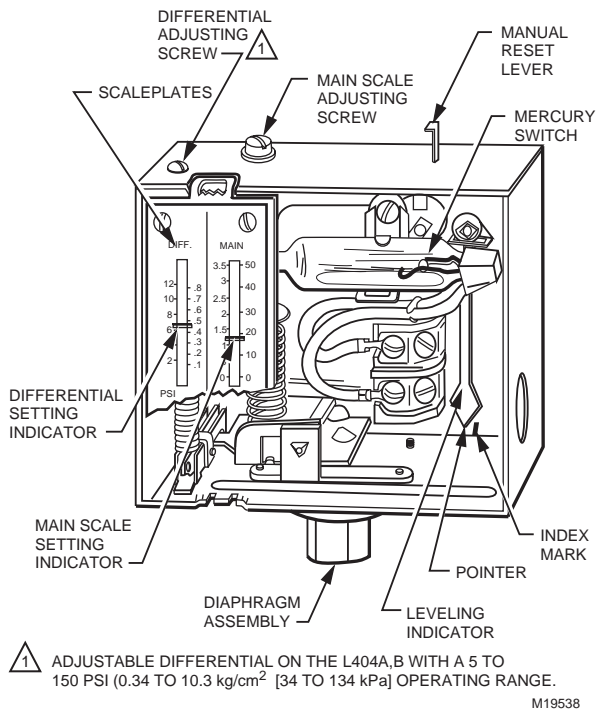

Fig. 7. Setting a Pressuretrol® Controller.
A controller with a mercury switch must be accurately leveled for proper operation. It is level when the leveling indicator (see Fig. 7) hangs freely with its pointer directly over the index mark inside the back of the case. Level the controller by carefully bending the steam trap (siphon loop).
The L404B is recommended for this application. It makes a circuit when the pressure rises to the setpoint and breaks when the pressure falls to the setpoint minus the differential (Fig. 7).
Adjust the main scale set point for the desired operating pressure by turning the main scale adjusting screw (Fig. 7) on the top of the case until the main scale setting indicator is at the desired value. On an L404A (except the L404A1651, which has a fixed differential) or L404B, adjust the differential setting by turning the differential adjusting screw (Fig. 7) until the differential setting indicator is at the desired value. The scaleplates are marked psi and kg/cm2.
2. Turn the main scale adjusting screw (Fig. 7) until the main scale setting indicator on the controller corresponds to the boiler pressure gauge reading.
5. If the controller is operating properly, turn the main scale adjusting screw (Fig. 7) until the main scale setting indicator is at the desired set point.
The controller was carefully calibrated during manufacturing and should not require recalibration. Most calibration errors are caused by improper leveling. The controller should be level when the pointer on the leveling indicator is directly over the index mark (Fig. 7). In some cases, the leveling indicator may not be accurate enough. The pointer may be over the index mark, but the controller still may not be operating within the tolerance of its scale setting. In this case, carefully bend the steam trap (siphon loop) until the controller switches properly.